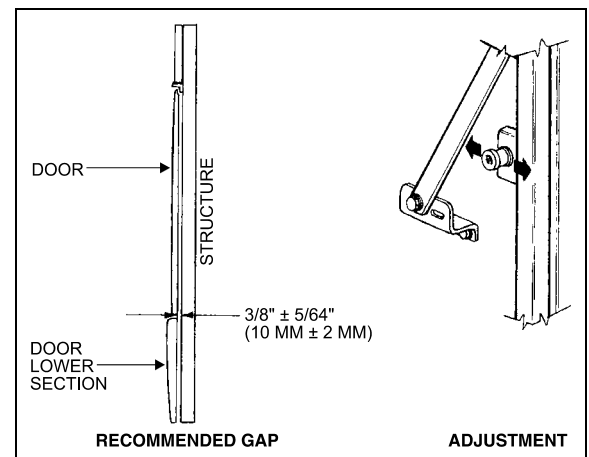

FIGURE 59: BAGGAGE COMPARTMENT DOOR 18070
7. With door shut, it should have a gap of $3/8'' \pm 5/64''$ (10mm \pm 2mm) between door panel lip (at level of upper edge of lower section) and structural post. If not, move pins horizontally until correct gap is obtained. Fully tighten the pins after adjustment is achieved (Fig. 59).